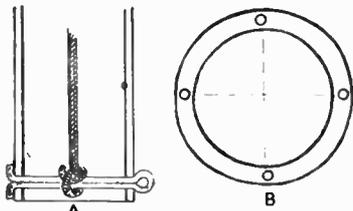
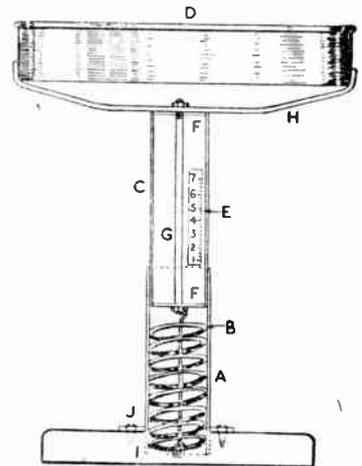

Fig. 2—The securing cord (A) and (B) pattern of collar for base
Fig. 1—Sectional view of parts and construction
Assuming that the reader has obtained a spring of the above dimensions, the lower tube which is of either brass or copper, must be 2ins. in internal diameter by 7ins. length. The inside must be nicely polished smooth and a very light smear of oil applied. The upper tube is of similar metal and must be 2ins. external diameter by 8ins. length. Two end-pieces, Fig. 1 (F), are soldered into place and the scale-pan carrier secured into position by a long bolt (G) which passes down the length of the tube and is bolted through and on the end-pieces.
Near the bottom of the larger tube is drilled two small holes and a split-pin passed through and secured by opening and turning the ends over—Fig. 2 (A). A thin cord or small chain is then fastened under the bolt (G), the spring inserted in tube (A) then the smaller tube (C) inserted inside the larger tube and pushed down until the spring is slightly compressed.
The stand should be made from a fairly substantial piece of wood. A hole is drilled nearly through of the same external diameter as that of the lower tube (I). The tube is then pressed in as far as possible and securely located in position by a collar or ring. The collar is made from brass ¼in. thick to the pattern as shown in Fig. 2 (B). This is slipped over and down the tube and is tightly screwed into the baseplate with four screws, Fig. 1 (J). It is then sweated with solder around the tube, thus making a firm and stable assemble.
The T handle, Fig. 1, generally breaks off at the join with the shaft. It can be made as good as new by first cutting off all rotted or broken parts and then cutting down to a shoulder to fit tightly in the top bar and then to drive in a good wedge. It might be that only a nicely fitted wedge was necessary—cut this from hard wood and do not make the taper too sharp. All wedges should be glued before tapping home to prevent any possibility of them working loose.
Sometimes the top bar is just screwed on to the shaft. This is not at all satisfactory and should be altered to fit as in Fig. 1.